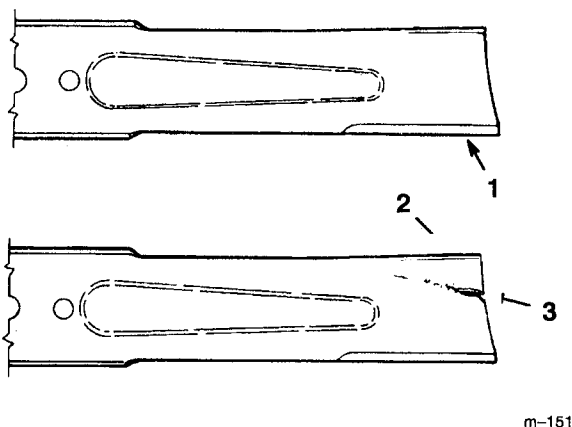

Figure 11
1. Inspect the cutting edges (Fig 11). If the edges are not sharp or have nicks, remove and sharpen the blades. Refer to Sharpening the Blades on page 13.
2. Inspect the blades, especially the curved area (Fig. 11). If you notice any damage, wear, or a slot forming in this area (item 3 in Fig. 11), immediately install a new blade.